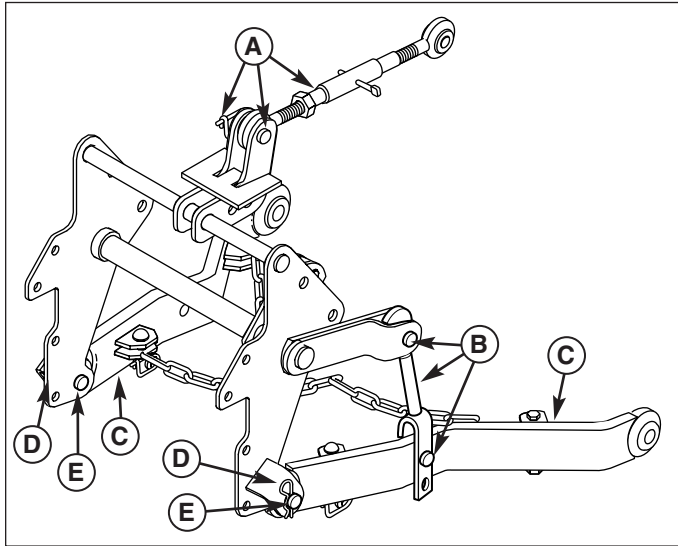

Figure 4. Install Side Brackets
1. Remove the tube assembly & mounting hardware (A, Figure 4).
2. Remove the two clevis assemblies & mounting hardware (B, Figure 4).
3. Remove the two lower link & chain assemblies (C, Figure 4) by removing hair pins (D) and clevis pins (E). Reinsert clevis pins (E) and hair pins (D)